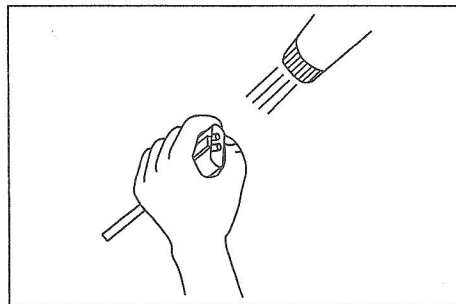

Fig. 07-17
2) Dry the inner side with a dryer (See Fig. 07-17).